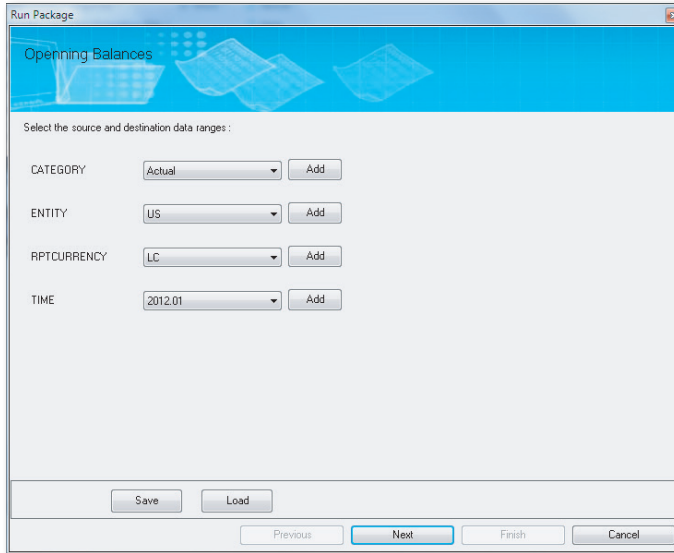

Figure 9.8 Configuring Carry Forward Balance Business Rule—Part H
8. Make the selections shown in Figure 9.8. We chose the time period January 2012 because we want to create the opening balance for that period.